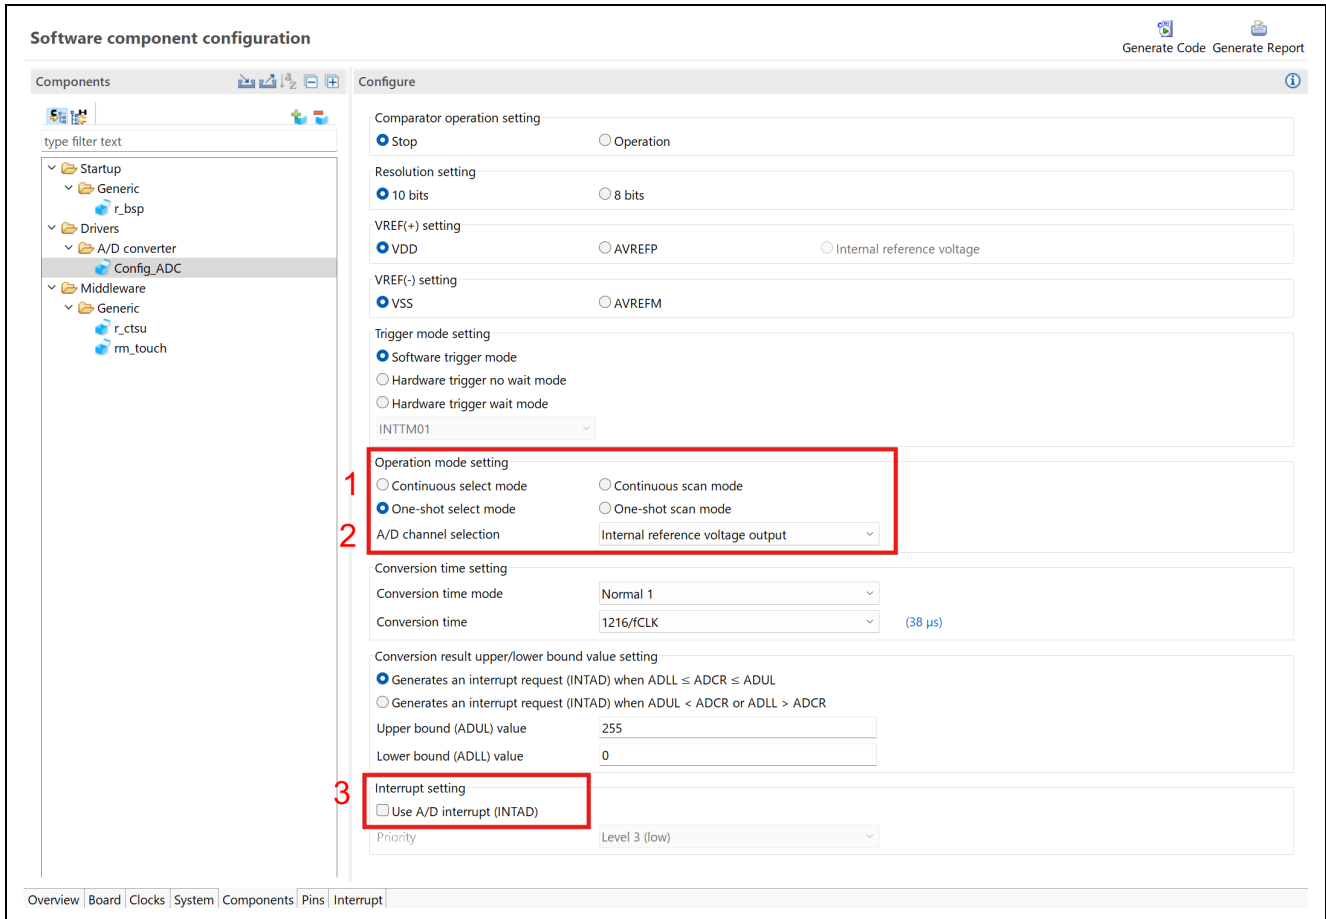

Figure 6-17 Configure ADC driver (RL78/G22)
6. If you are using an RL78/G16, add the AD converter “Config_ADC”. Change the following settings as shown in Figure 6-17